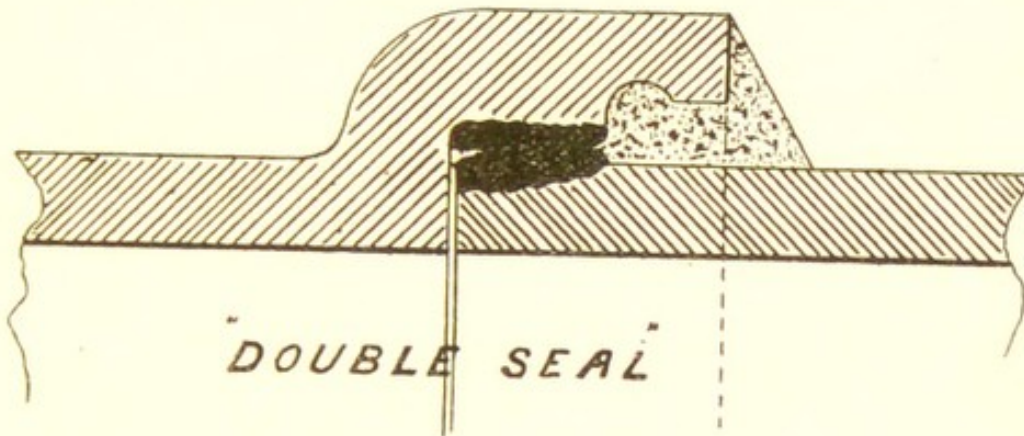

FIG. 12.
*The Patent "Double Seal" Jointed Pipes*, Tyndale's patent (Fig.12), are manufactured by Mr. Jennings, Stangate, London, of the best selected Dorsetshire clay. The method of jointing is similar to that of the "Stanford joint," but the pipes have a deeper and under-cut socket, so that after the pipes have been laid and tested the additional security of a fillet of cement may be added for the purpose of ensuring a more perfect and permanent connection. These pipes have been selected by her Majesty's War Department for re-drainage works at the Tower of London and other Government works, and in 1891 were awarded the medal of the Sanitary Institute.